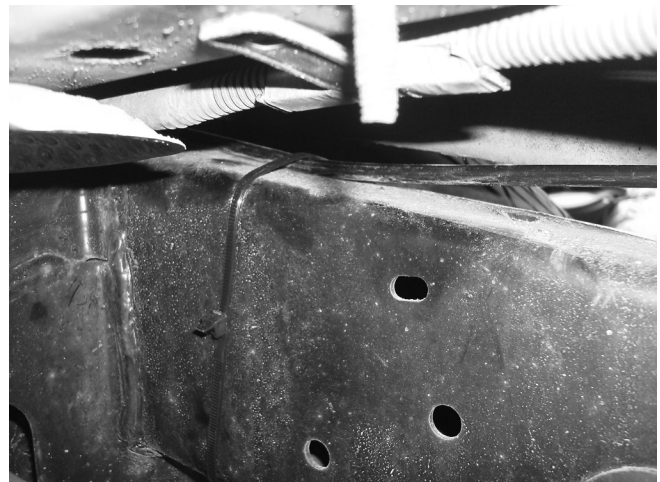

Fig. 13
11. Route the air line along the top of the frame to the back of the vehicle, leaving sufficient slack in the line above the spring/upper mount, for suspension travel (Fig. 13). Zip tie the line to keep it in position.